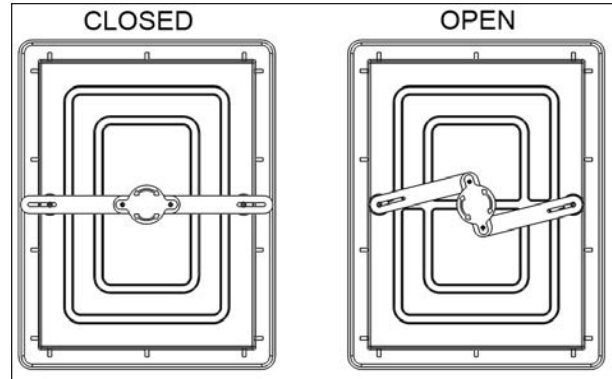

FIGURE 45: ESCAPE HATCH RELEASE MECHANISM
13. On the escape hatch, check if the release mechanism is working well. Make sure that the hatch arms are retracted when open and non-retracted when closed see Figure 45.